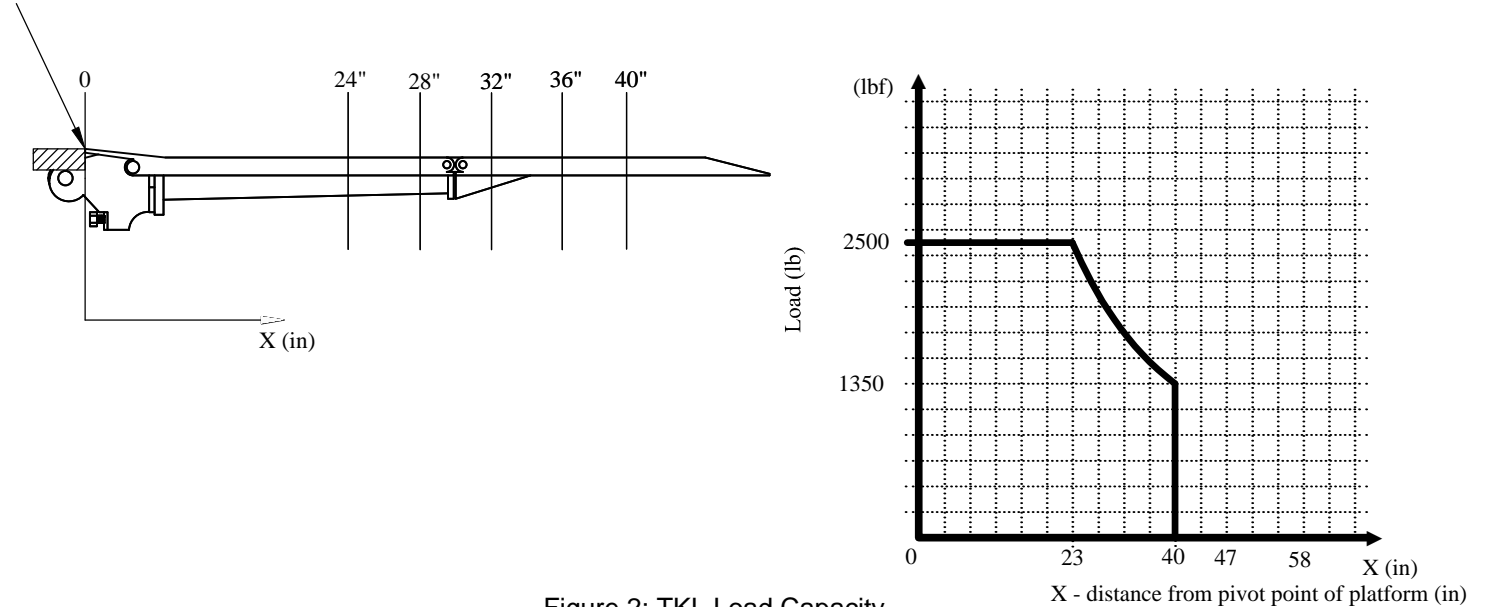

Figure 2: TKL Load Capacity
**Note:** Liftgate capacity depends on both the weight and location of the load. Loads placed closer to the taper may reduce lifting capacity or damage the liftgate. See Figure 2: TKL Load Capacity on Page 7.